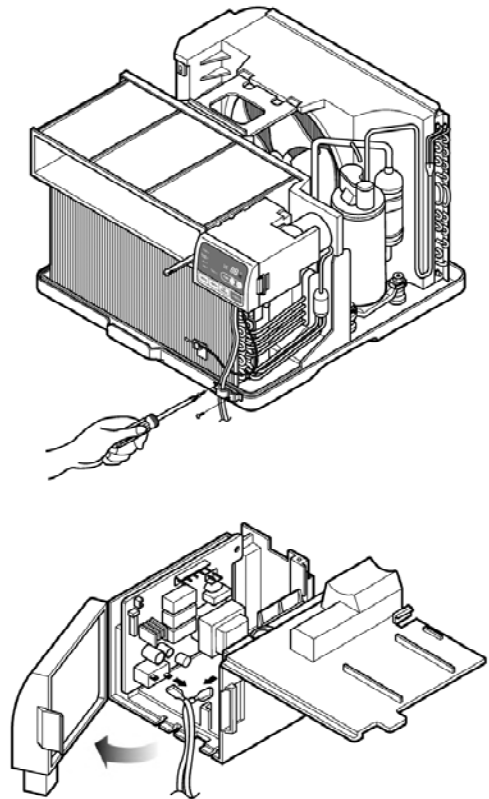

Figure 25
3. Disconnect the front panel from the control box. (See Figure 25)